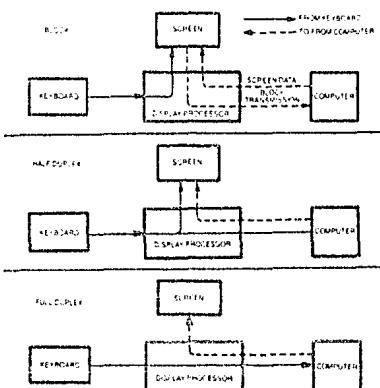

Figure 3-2 Communication Modes
available are block, half duplex (conversation), and full duplex (conversation). The communications flow caused by these modes are illustrated in Figure 3-2.
3.4.2.2 Conversation Mode—In this mode, two-way transmission occurs continuously between the screen and the computer. You can either send the information to the computer *at the same time it is displayed on the screen*, or you can send it to the computer and the computer will echo back the information on the screen. (The time needed to echo back the information is so short it will seem to happen simultaneously.) Regardless of when you send data, the terminal can always receive information from the computer. When the information is displayed simultaneously with the transmission, it is called "half duplex." When the information is sent first to the computer and echoed back to the terminal, it is "full duplex." Refer to Figure 3-2 for a diagram of the information flow.